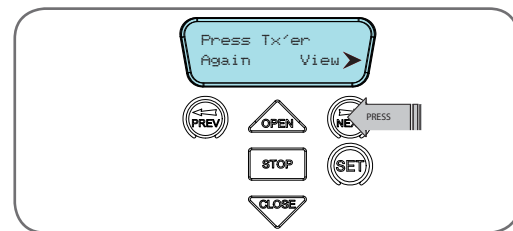

fig 34
4. Press NEXT to view the transmitter parameters (Fig. 34). This method is used for quick navigation if the transmitter is available.